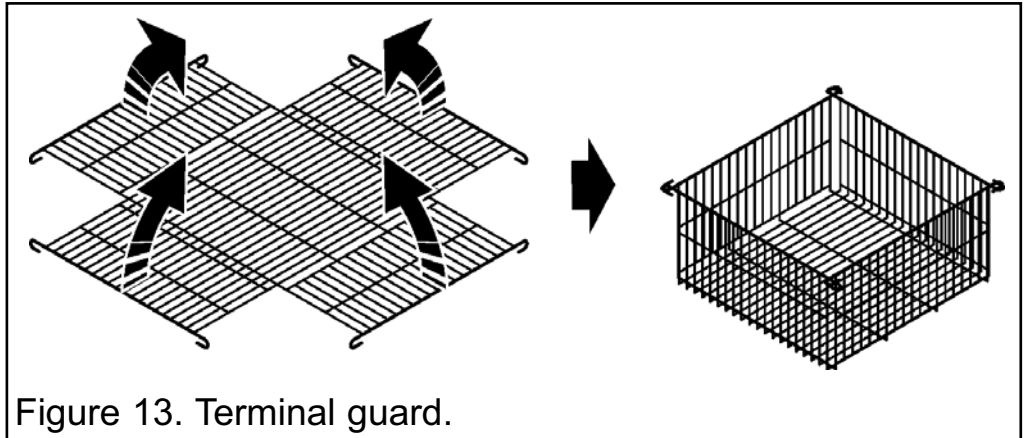

Figure 13. Terminal guard.
- Place the guard centrally over the flue terminal with the fixing ears at each side - not at the top and bottom (See figure 13).